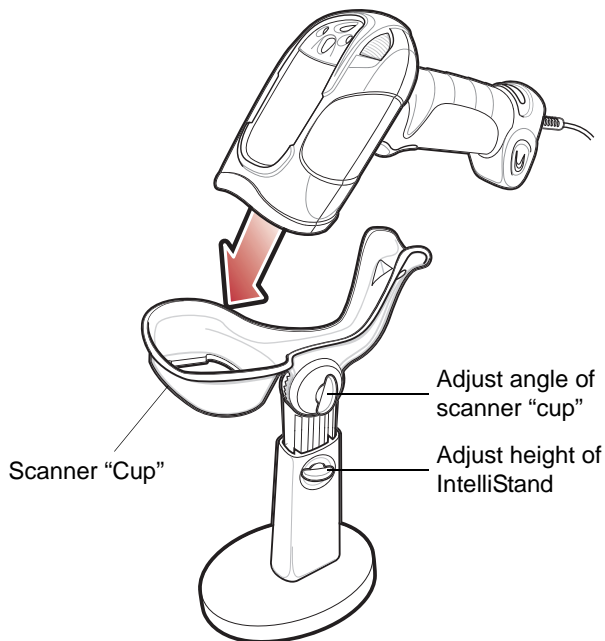

Figure 2-6 Inserting the Digital Scanner in the IntelliStand
2. Insert the digital scanner in the IntelliStand by placing the front of the digital scanner into the stand's "cup" (see Figure 2-6).